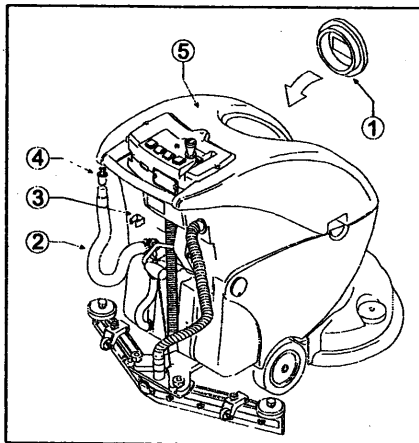

Fig. 10
- take off the tank cap (fig. 10, ref. 1) from the recovery tank (fig. 10, ref. 5);
- detach the drain hose (fig. 10, ref. 2) from its seat, holding it in correspondence with the fixing spring (fig. 10, ref. 3) and pull it horizontally;
- keeping the hose end as much high as possible, take off the drain cock (fig. 10, ref. 4) by unscrewing it;
- put back the cap (fig. 10, ref. 1) on the recovery tank, making sure that it is perfectly closed;
- close the drain hose (fig. 10, ref. 2) with the cock (fig. 10, ref. 4) screw-tightening it; check that it is perfectly closed and refit the hose in its housing.